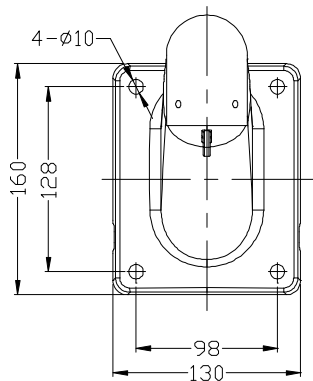

Fig 5-2 Wall mounting bracket dimension
1. Select a suitable place for installation, and punch on the surface, bracket dimension as fig 5-2.
1. Select a suitable place for installation, and punch a hole on the surface, bracket dimension as fig 5-2.